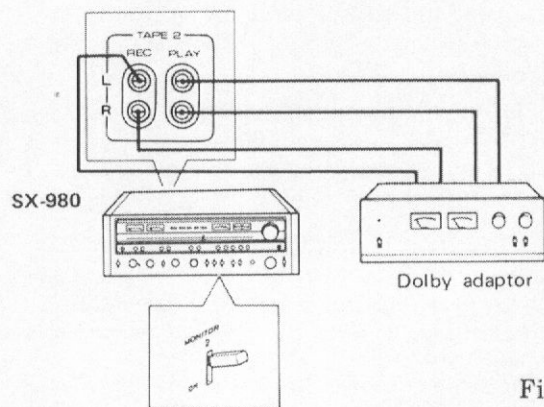

Fig. 17
1. Connect the Dolby adaptor to the TAPE 2 jacks (REC, PLAY), as shown in Fig. 17.